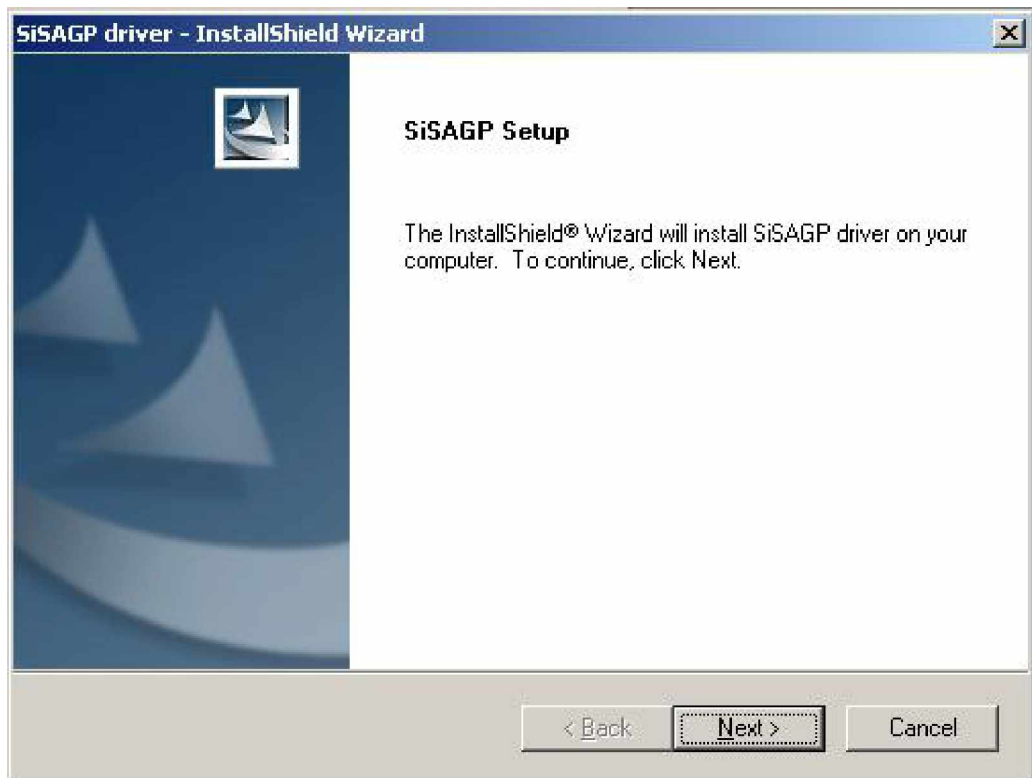

Figure 6-3: Install Shield Screen
Step 4: The “**Install Shield**” window in **Figure 6-3** appears next. To continue installing the AGP pack driver, click “**NEXT.**”